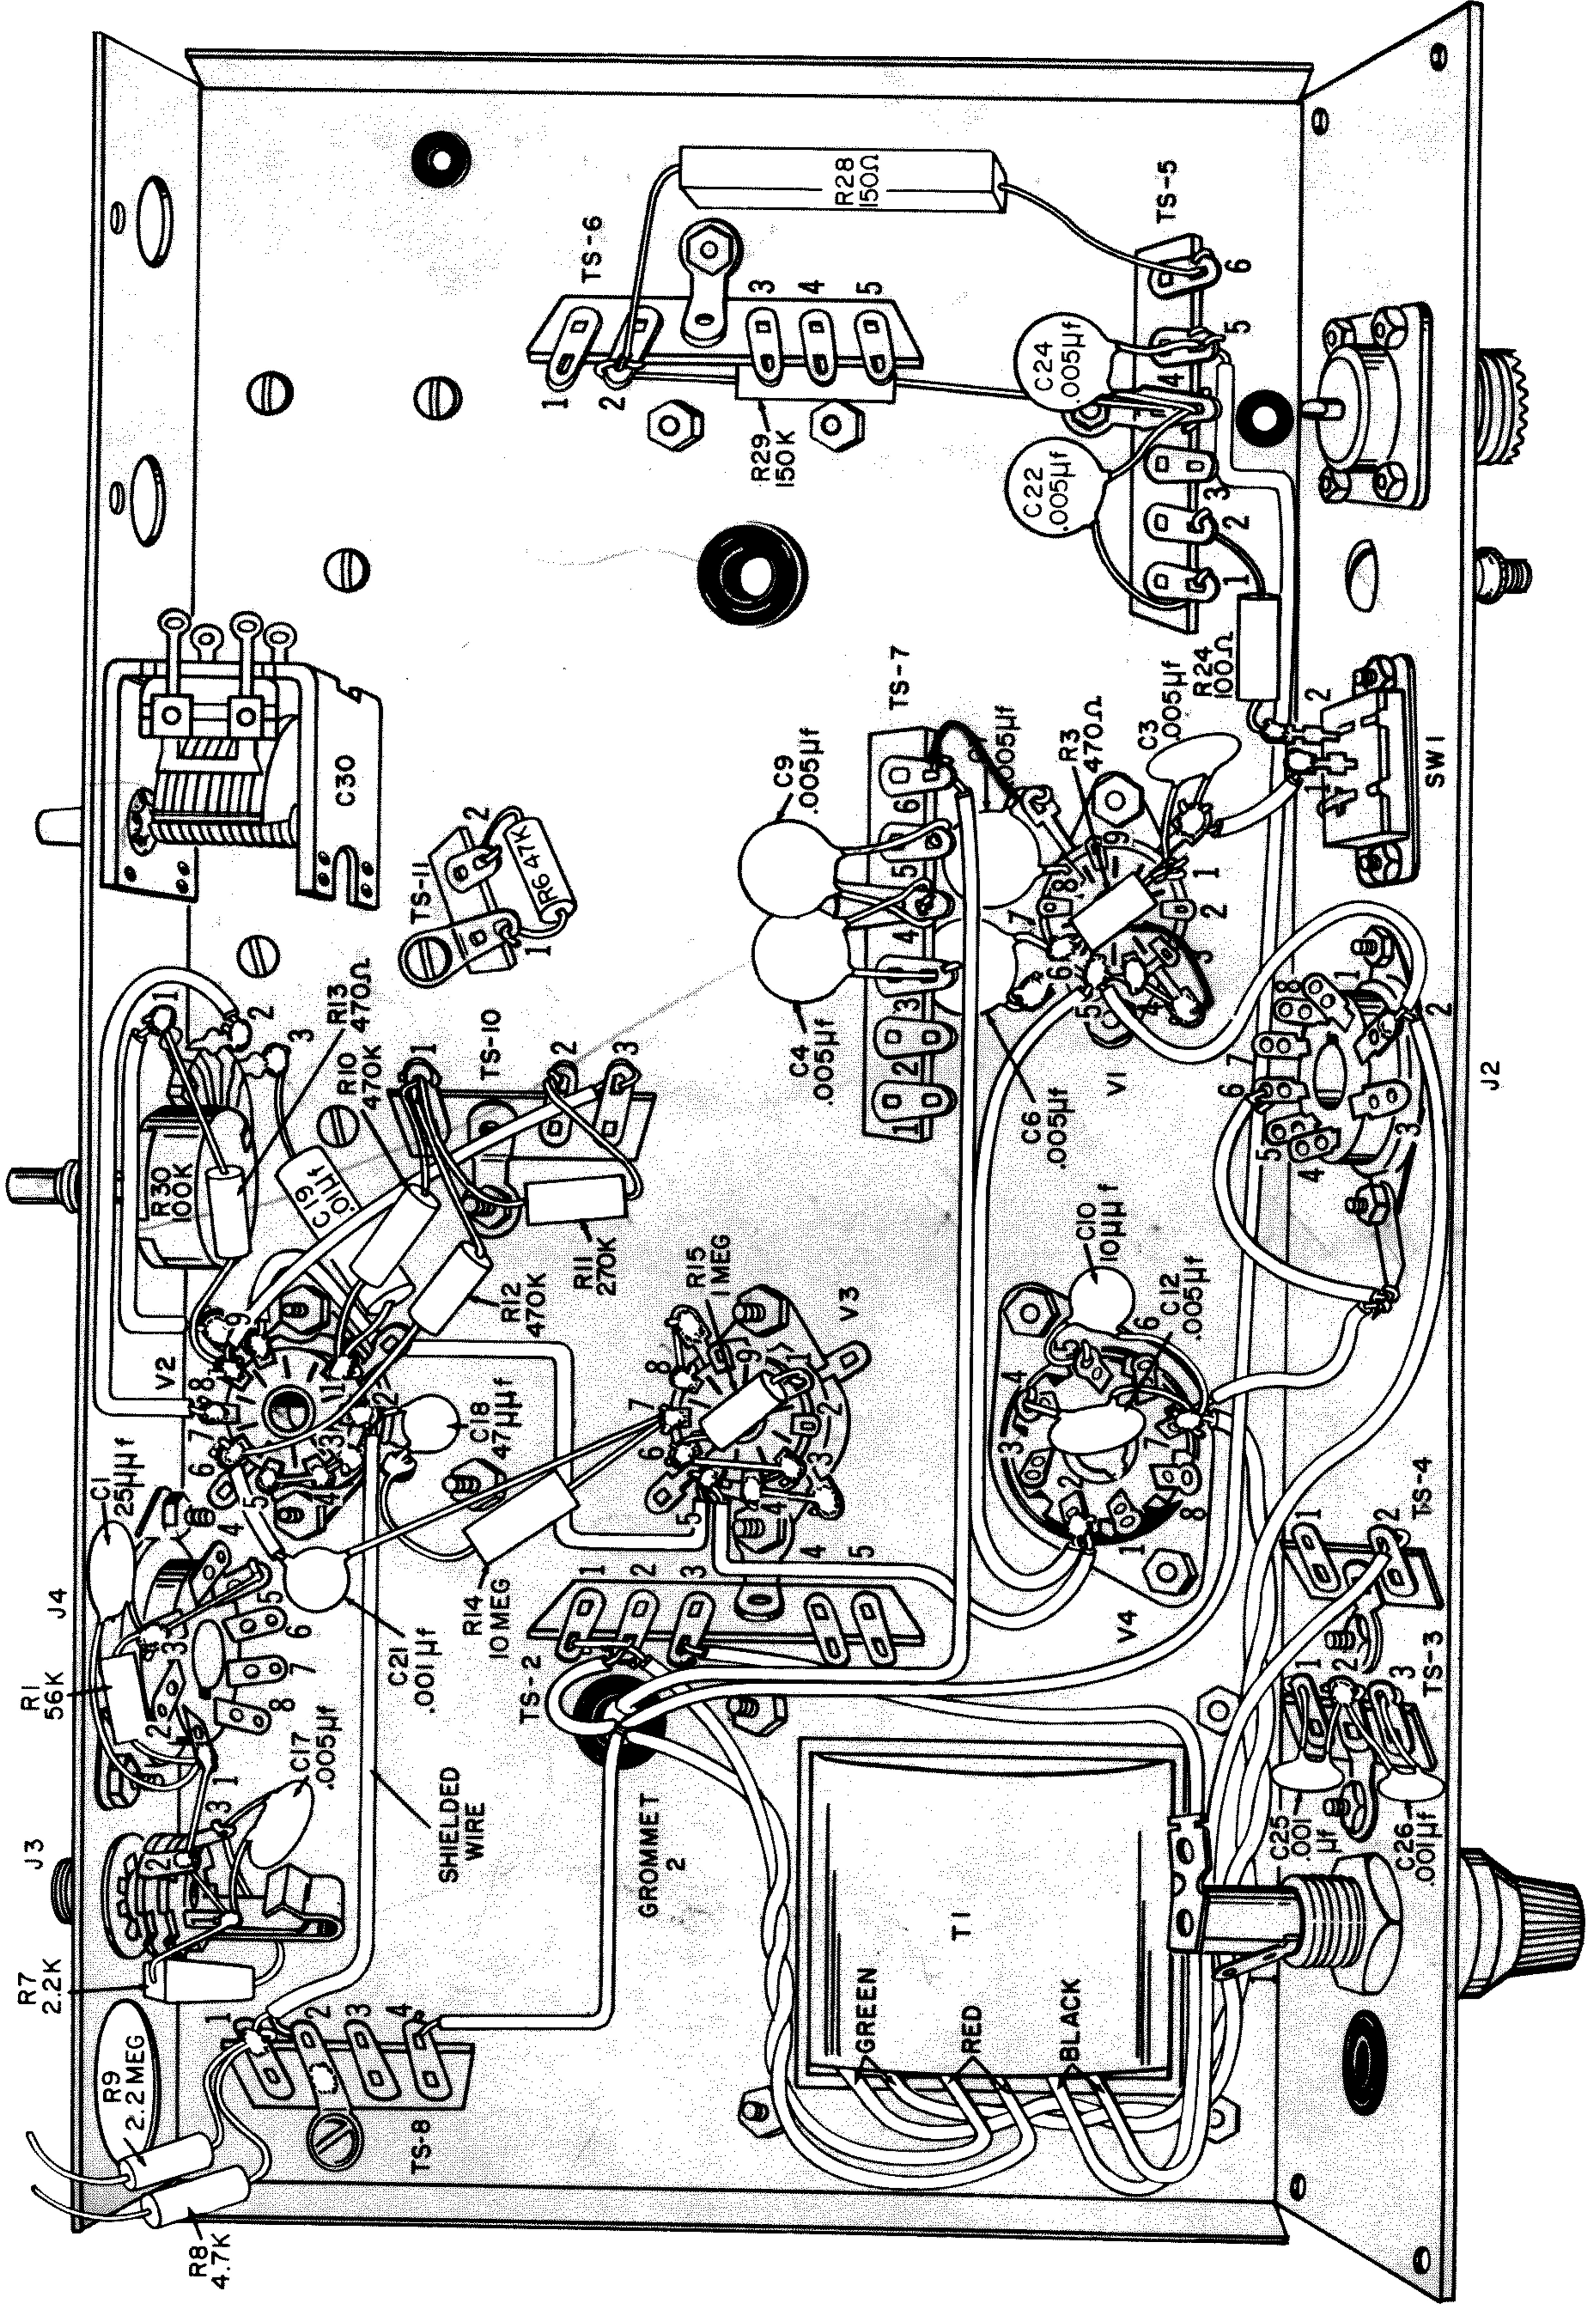

FIGURE 7
### SEE FIGURE 7
- Refer to Figure 7. Note position of wires on power transformer (T1). Twist the two green wires and route them along chassis bottom under the fuse holder, TS-3, and TS-4. Connect one wire to pin 2 of socket J2. Connect the other wire to pin 7 of V4.
- R28, 150 $\Omega$ , 10-watt resistor (square shaped). Connect one lead to terminal 2 of TS-6. Place the resistor body flush against the chassis as shown in Figure 7. Connect the other lead to terminal 6 of TS-5.
- White wire with blue tracer. Connect one lead to terminal 5 of TS-5. Route the other end along bottom of chassis as shown in Figure 7, over to grommet 2 and through the hole. This wire will be connected later.
- Twist together the red leads from power transformer T1 as shown in Figure 7. Connect one lead to terminal 2 of TS-2.
- Gray wire. Connect one end to terminal 6 of TS-7. Route as shown in Figure 7, and pass other end through grommet 2. This wire will be connected later.